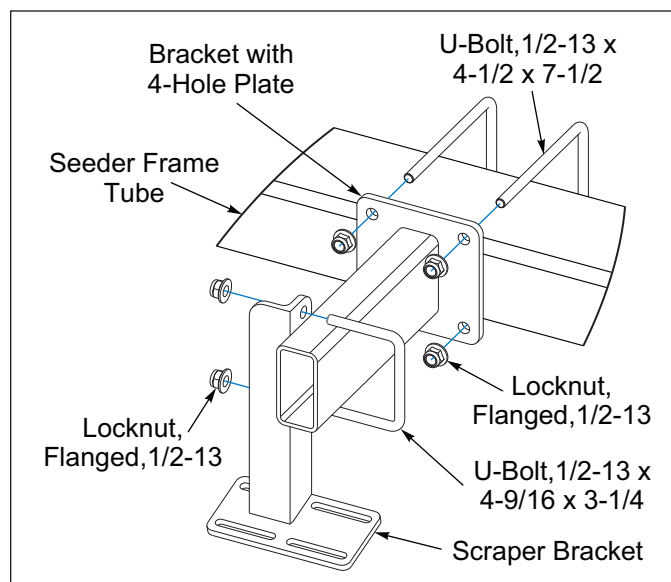

Figure 2-60: Scraper Brackets
3. Attach the Scraper Brackets to the Bracket Tube with a 1/2-13 x 4-9/16 x 3-1/4 U-Bolt and Flange Locknuts. Do Not tighten at this time. See Figure 2-60.